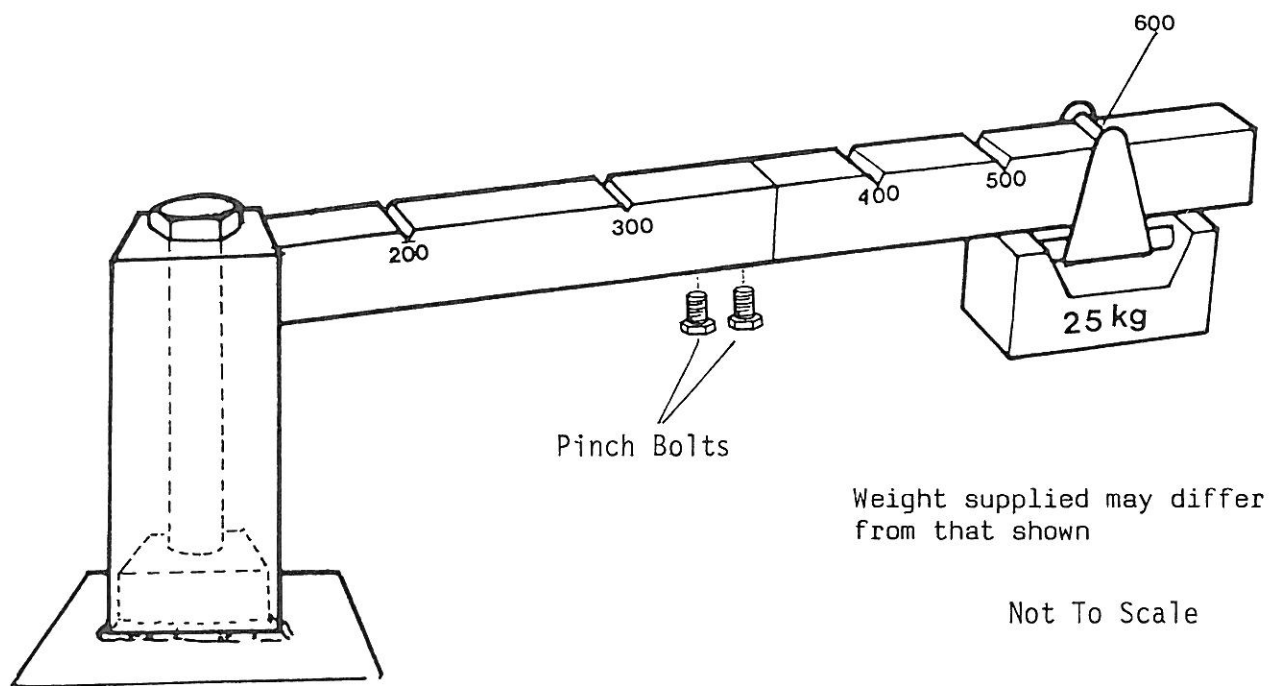

FIG.11
| CC6 | Bolt the 'L' shaped part of the calibration rig onto the locating block mounted on the motor flange. Ensure that the rectangular locating spigot fits into the rig properly. Fit the horizontal arm extension and tighten the two pinch bolts to secure it (see Fig.11). | ◀ |
- L5 Fit the calibration rig (see Fig.11 & step CC6 on page 38) to the L.H. roller assembly and hang the 25kg weight on the horizontal arm of the rig at the '600' mark.